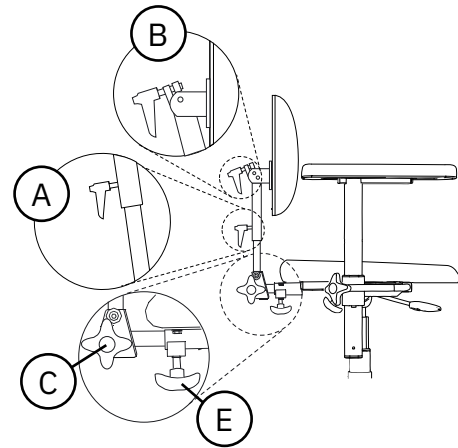

Figure 5.42. Medic backrest mechanism.
Medic can be adjusted in height (A), angle of back rest mechanism (B), angle of back recliner (C) and depth (E), see Figure 5.42. The back recliner can be adjusted in the range of 15° forward to 45° backwards.